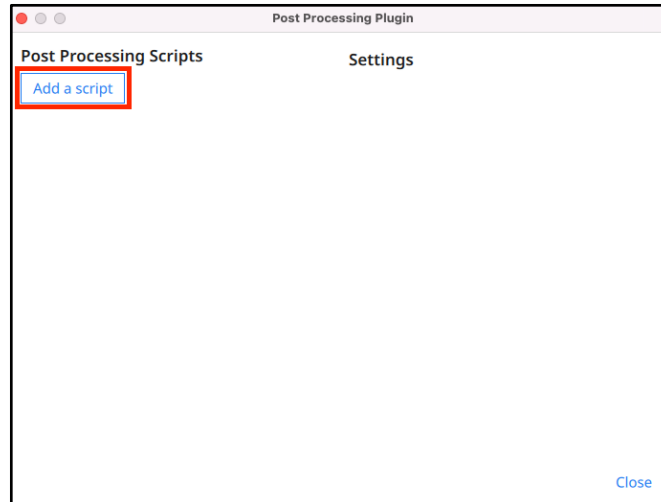

Figure 9: Adding a Script
15. Click on 'Add a script' (See Figure 9).